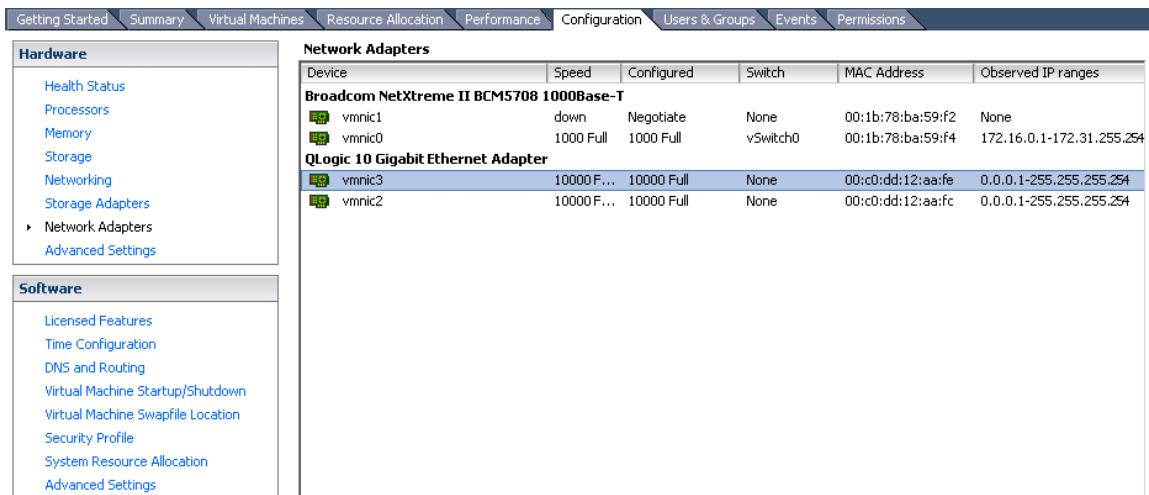

Figure 5-14. Displaying Network Adapters Using the vSphere Client
- In the Hardware pane, select Network Adapters to display all network adapters, as shown in Figure 5-14.